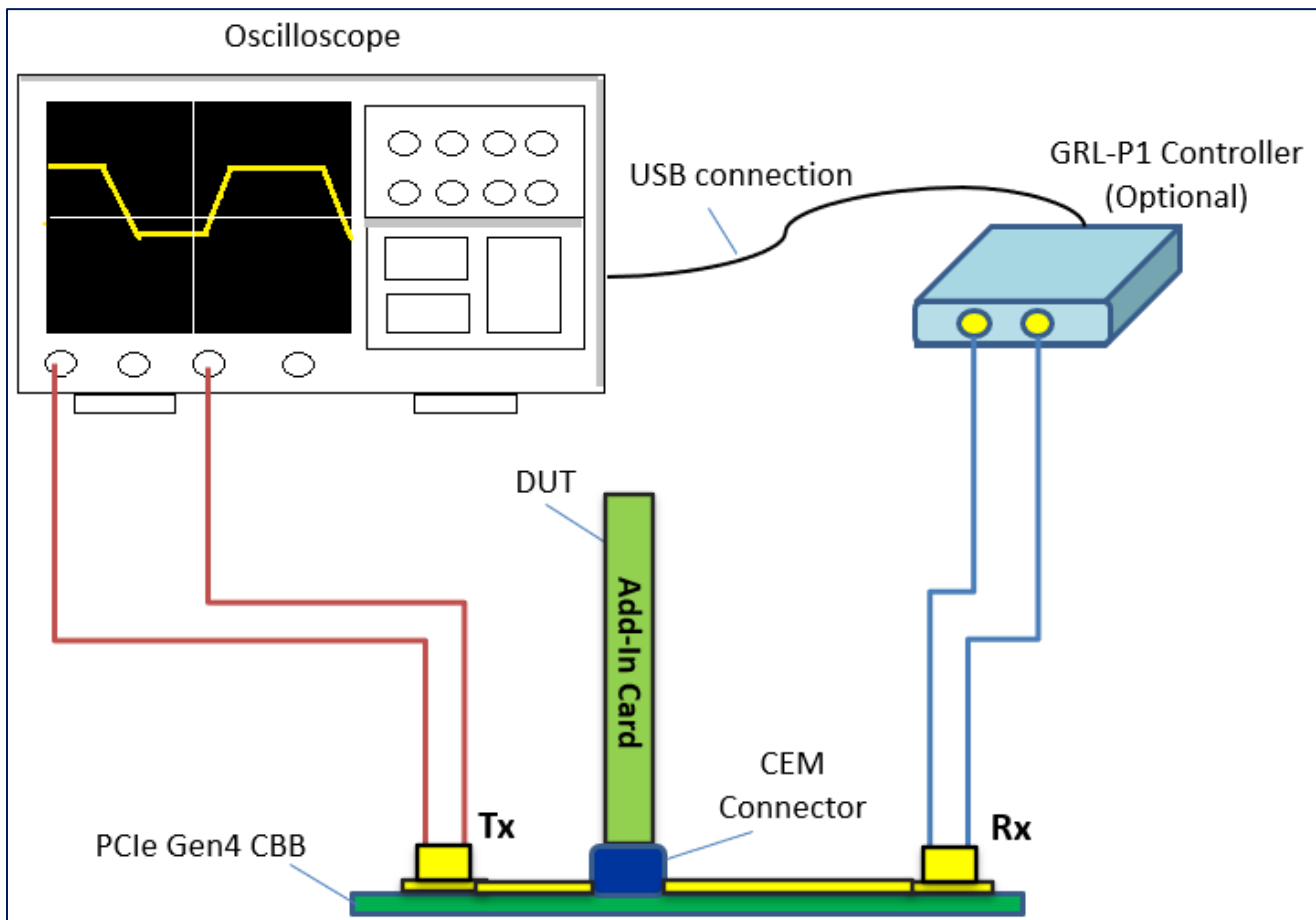

FIGURE 24. CONCEPTUAL PCIe GEN4 ADD-IN CARD TX TEST SETUP DIAGRAM USING GRL-P1 (WITHOUT RF SWITCH)
1. Using the same connections from Figure 24, connect the Tx+ and Tx- Data Lanes from the CBB to the RF Switch Inputs.